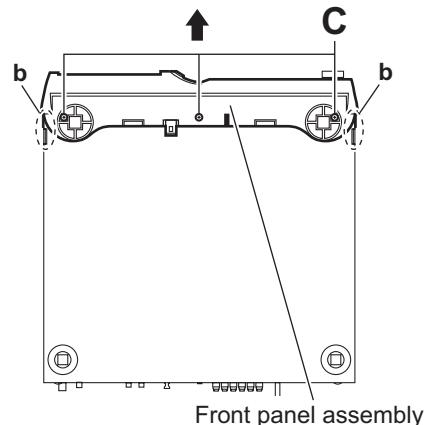

Fig.7
- (5) From the bottom side of the main body, remove the three screws **C** attaching the front panel assembly. (See Fig.7.)
- (6) From both sides and back side of the main body, remove the front panel assembly in the direction of the arrow while releasing the joints **b**. (See Fig.7.)